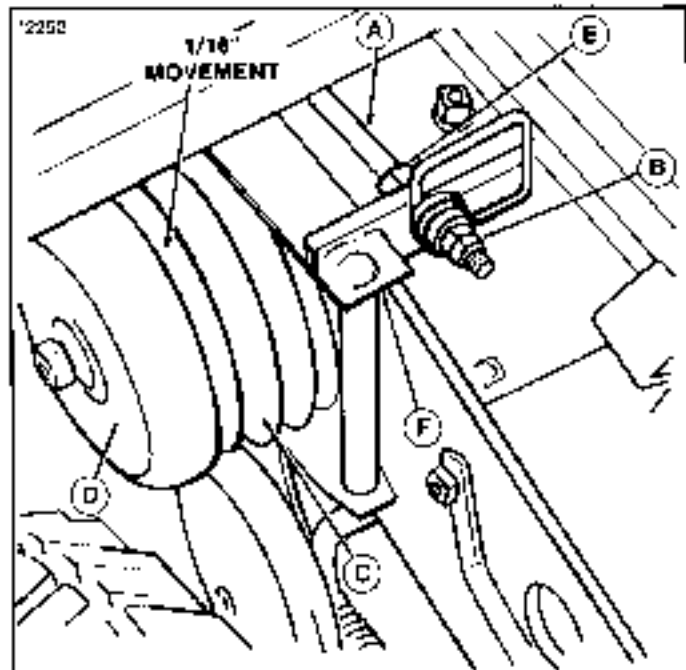

Figure 24. PTO Clutch Adjustment
The PTO clutch is properly adjusted when the clutch pulley (C, Figure 24) moves away from clutch cone (D) 1/16 inch (1.5 mm) when clutch is disengaged. To adjust, proceed as follows.
1. Loosen the rear nut (B).
4. Adjust locknut (E) so there is 1/8" (3 mm) between locknut (E) and pivot arm when clutch is disengaged.